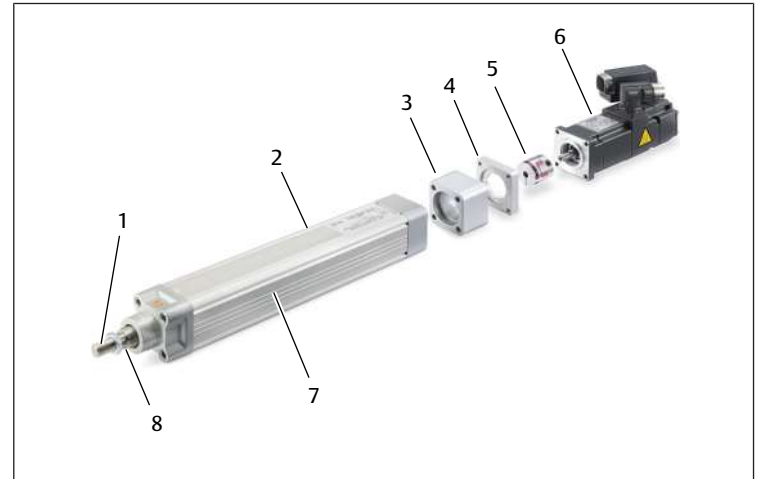

Fig. 2: Overview (sizes 32/40/63 mm)
- For size 32/40/63 mm. See → Fig. 2.